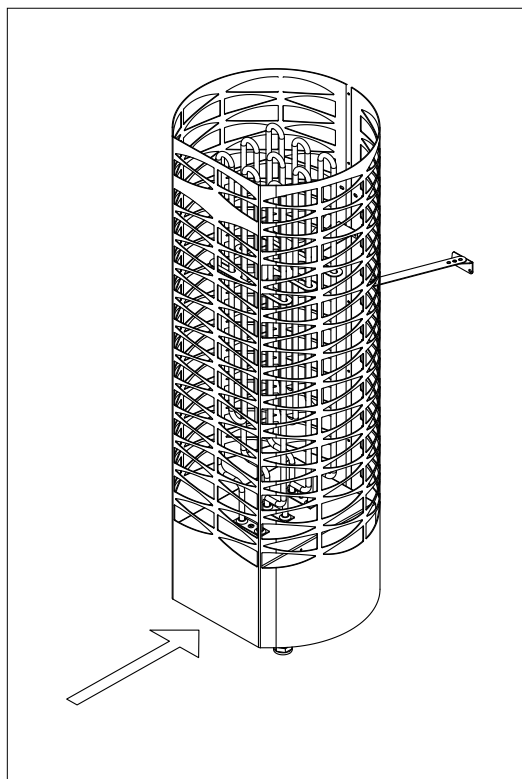

Figure 7. Location of the main switch
10. Ensure that the main switch (I/O) of the heater is in the O position. See Figure 7